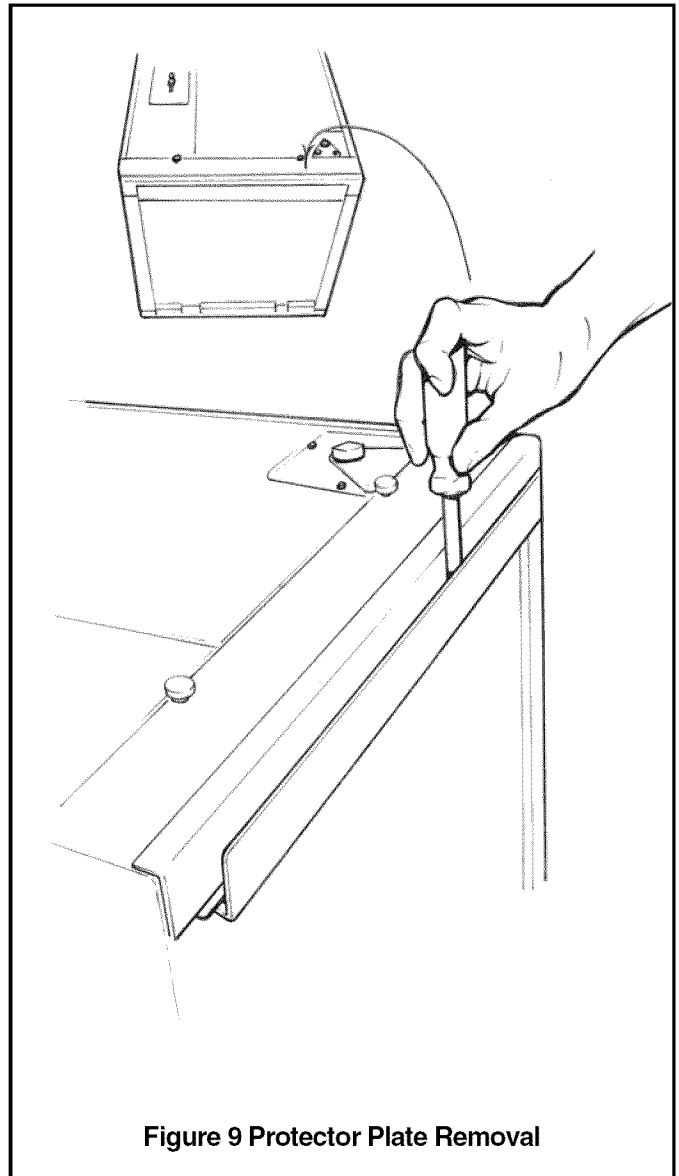

Figure 9 Protector Plate Removal
- Position unit to remove the bottom protector plate by laying the unit on its back. Use a flat blade screwdriver between the protector plate and the unit to pry apart. See Figure 9. Gently pull the plate towards the front of the unit to remove.
- c. Position unit to remove the bottom protector plate by laying the unit on its back. Use a flat blade screwdriver between the protector plate and the unit to pry apart. See Figure 9. Gently pull the plate towards the front of the unit to remove.